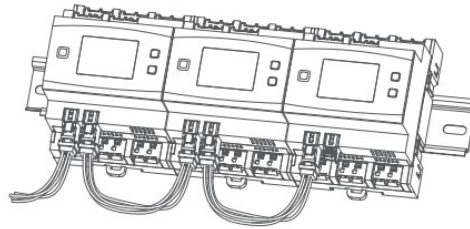

Figure 8
- Press and hold the system button for 4 seconds Fig. 8